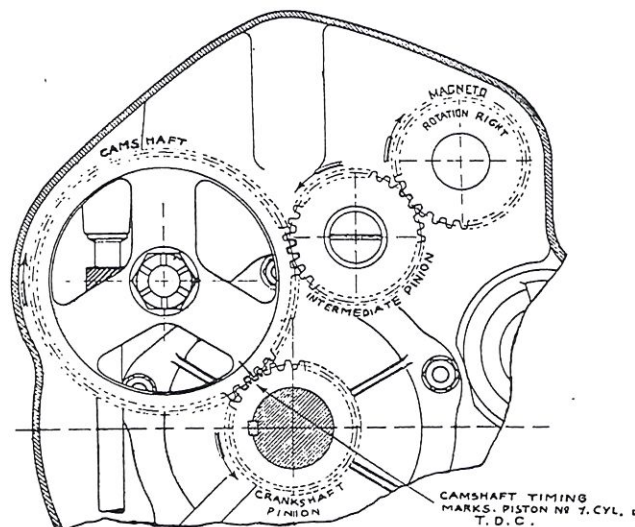

FIG. 5.
a) The inlet valve must open 0.25 mm with the piston after T. D. C. The other positions are automatically adjusted by the cam profile. Examine the timing gears to ascertain that they are assembled correctly in mesh, with their various marks corresponding, as shown in figure 5. The timing must be made from number 1. cylinder, which is the first behind radiator.